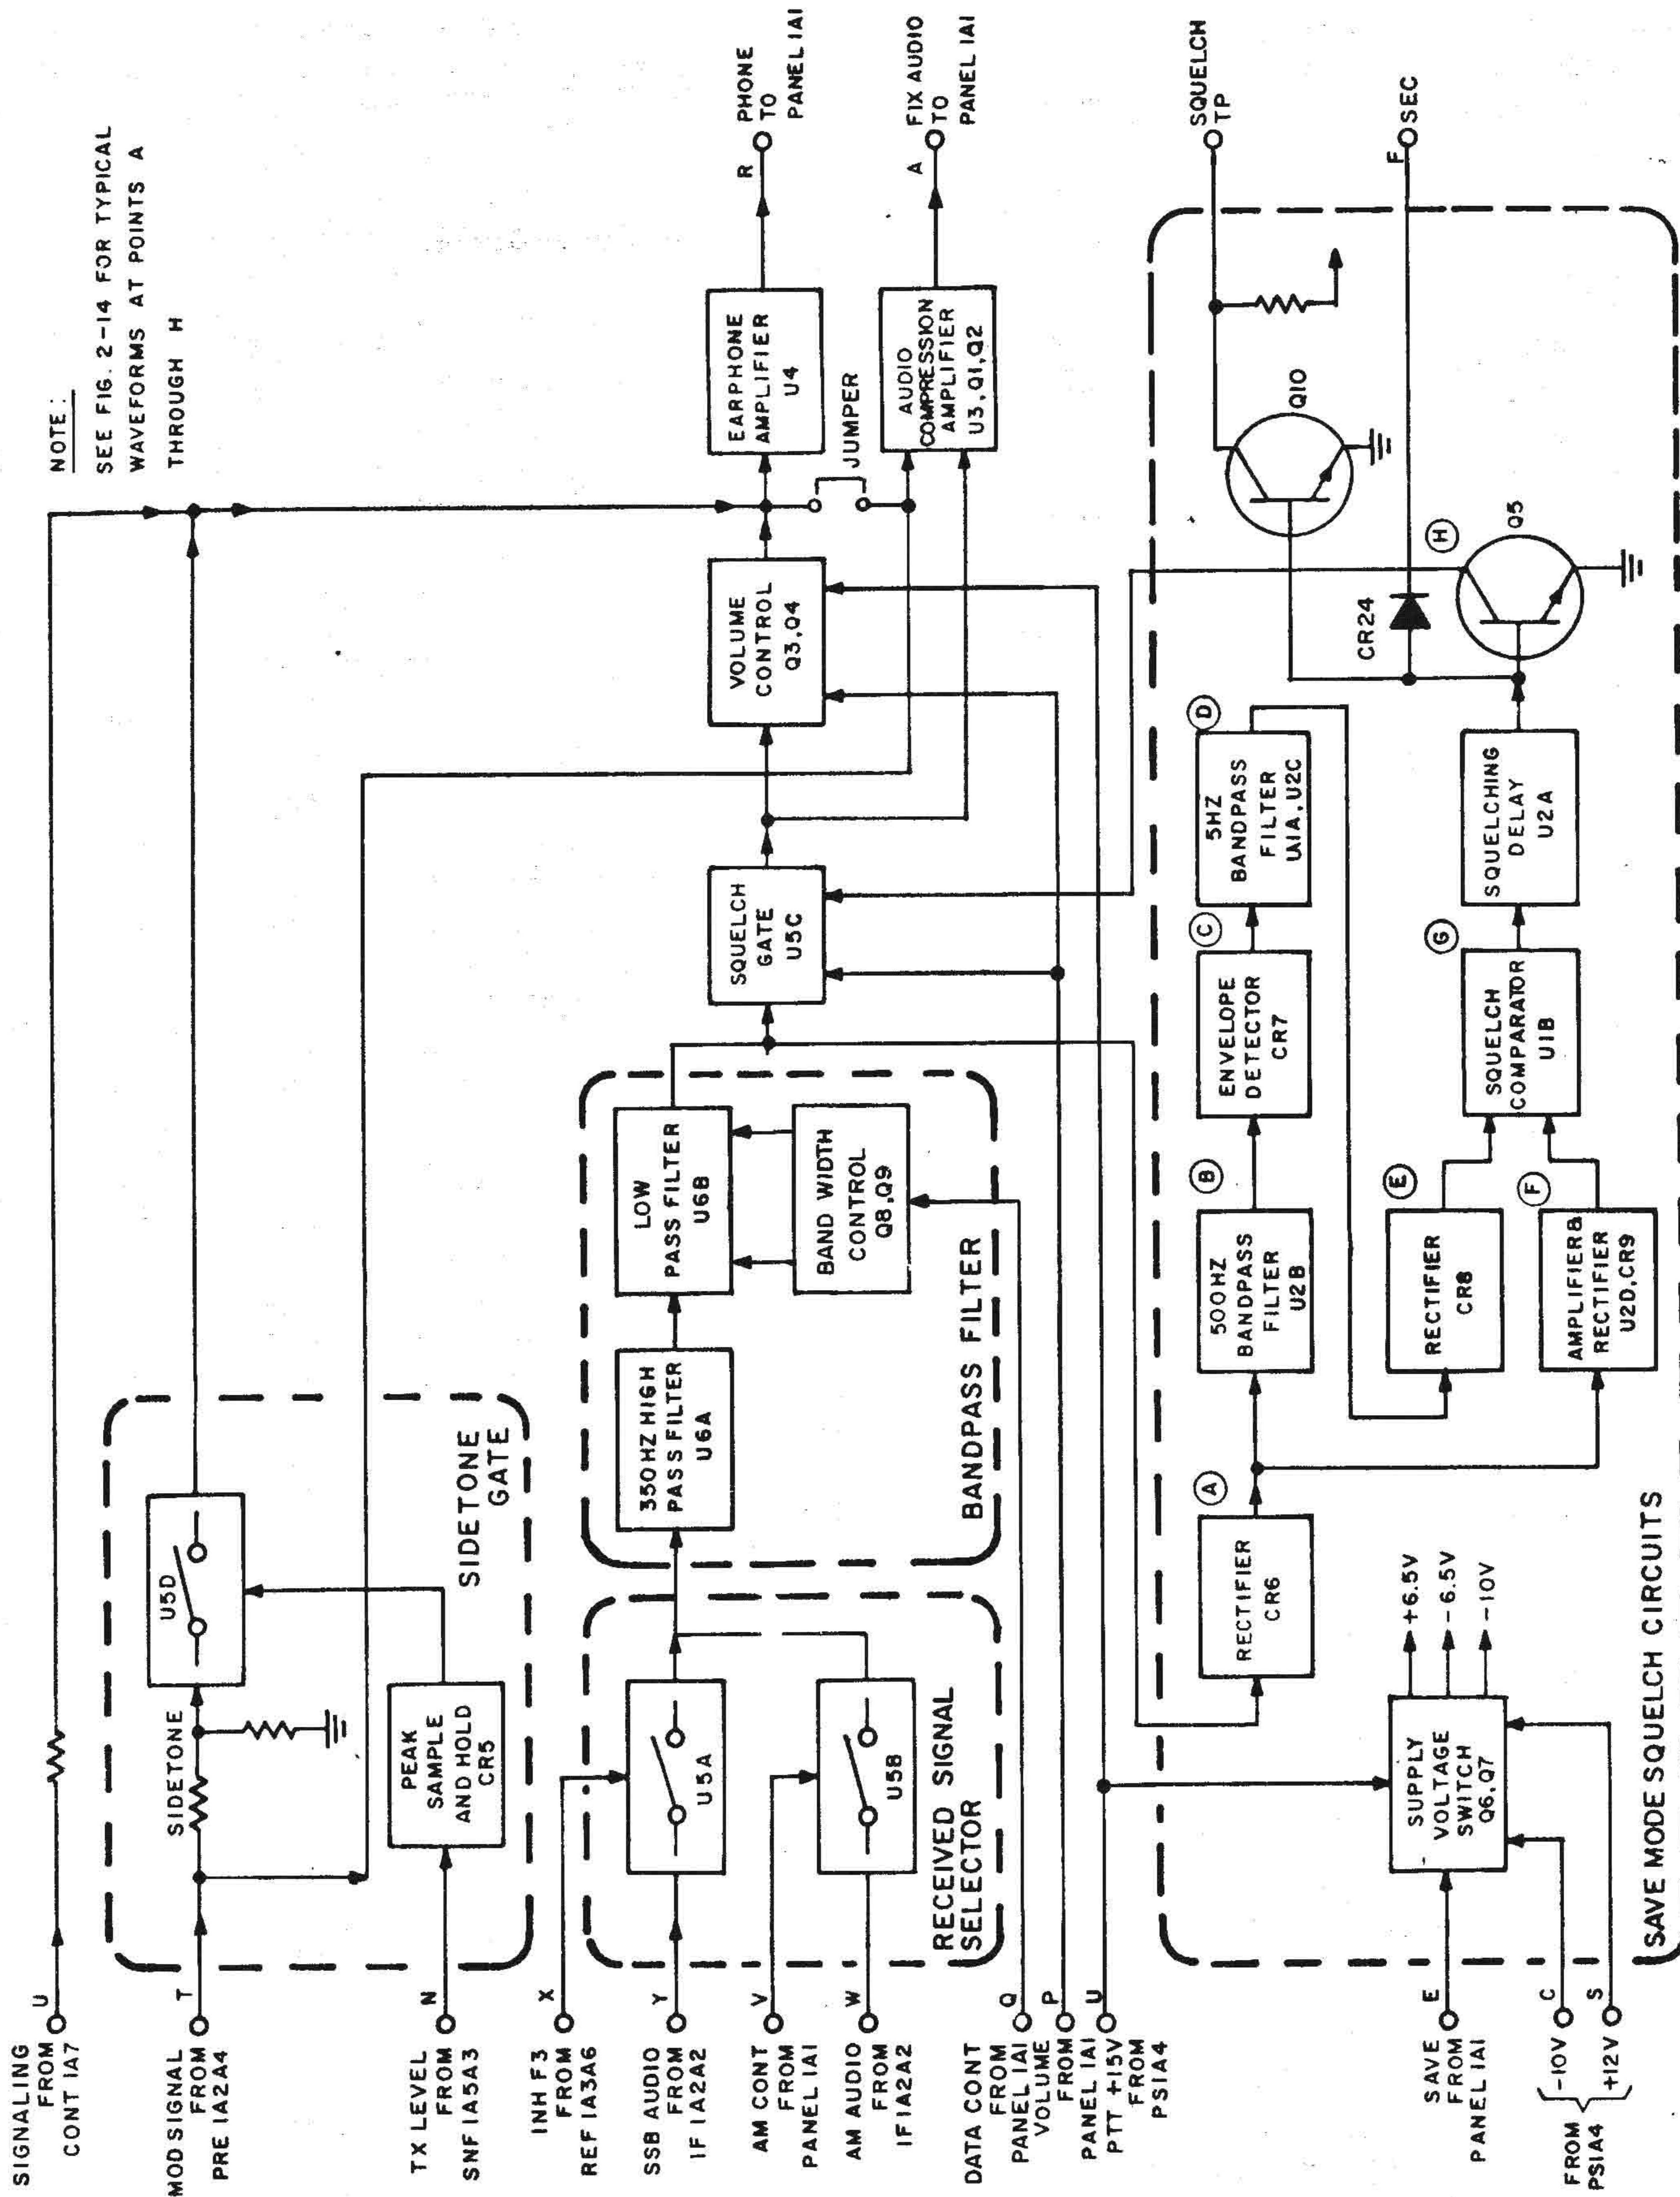

Fig. 2-11. Module AUDIO 1A2A3, block diagram
(fig. 2-11 thru 2-14)
a. Block Diagram Analysis (fig. 2-11, 2-12).
(1) Audio path in the normal receive mode. In the receive mode, the received audio signal arrives from the demodulators contained in module IF 1A2A2 (para. 2-8):